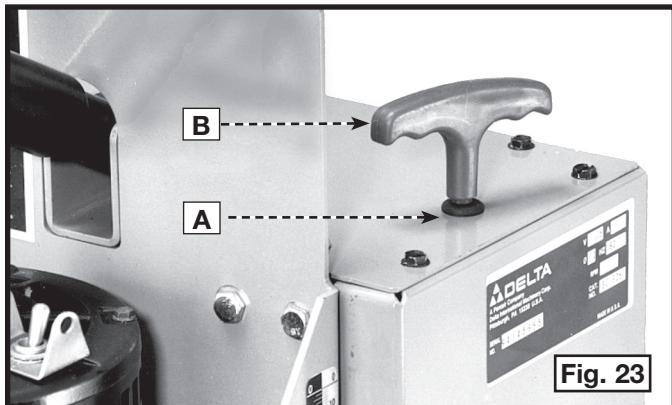

Fig. 23
A hole with a rubber grommet (A) Fig. 23 is provided on the top of the machine to store the supplied wrench (B).